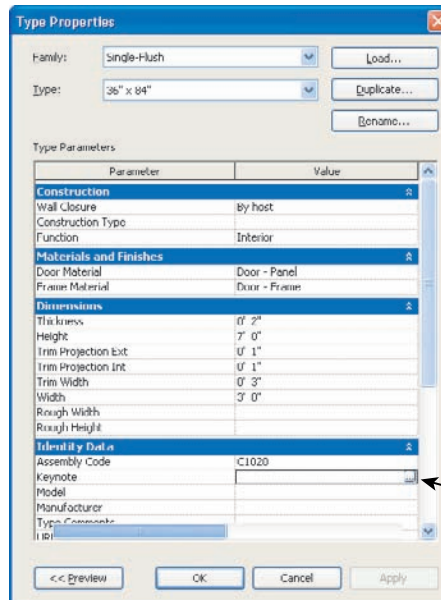

Figure 12.25
2. Click the browse button  in the Keynote field (Figure 12.25).